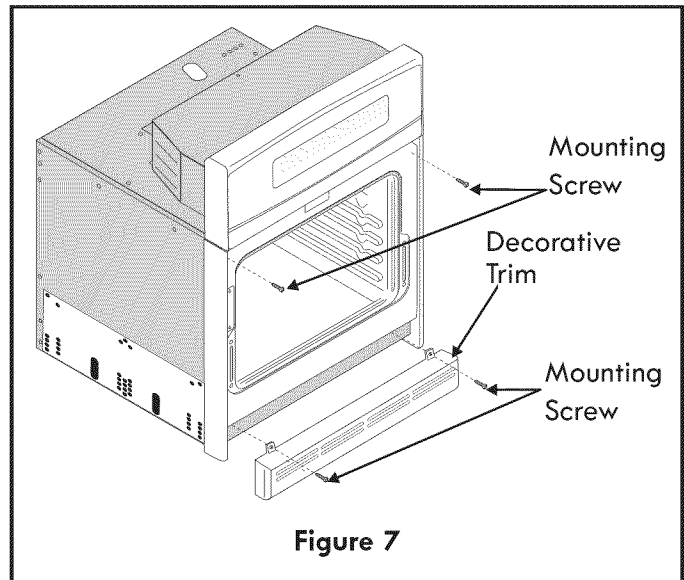

Figure 7
- A.** The mounting holes in the side trims may be used as a template to locate the appliance mounting screw holes (see figure 7).
Place the top of the bottom trim over the side trim tabs on each side of the oven below the oven door and fix it using the 2 screws supplied in the mounting holes located on each side trim below the oven frame (see Figure 7).